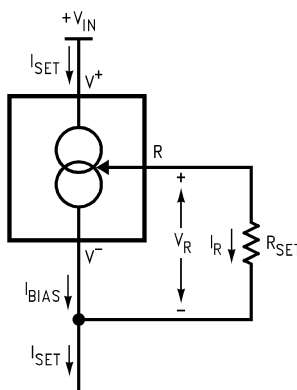

Figure 13. Basic Current Source
- (1) Unless otherwise specified, tests are performed at $T_J = 25^\circ C$ with pulse testing so that junction temperature does not change during test
- (2) Set current is the current flowing into the V^+ pin. For the Basic 2-Terminal Current Source circuit shown in Figure 13, I_{SET} is determined by the following formula: $I_{SET} = 67.7 \text{ mV}/R_{SET}$ (@ $25^\circ C$). Set current error is expressed as a percent deviation from this amount. I_{SET} increases at $0.336\%/^\circ C$ @ $T_J = 25^\circ C$ ($227 \mu V/^\circ C$).
- (3) I_{SET} is directly proportional to absolute temperature ($^\circ K$). I_{SET} at any temperature can be calculated from: $I_{SET} = I_0 (T/T_0)$ where I_0 is I_{SET} measured at T_0 ($^\circ K$).
The total current through the LM134 (I_{SET}) is the sum of the current going through the SET resistor (I_R) and the LM134's bias current (I_{BIAS}), as shown in Figure 13.